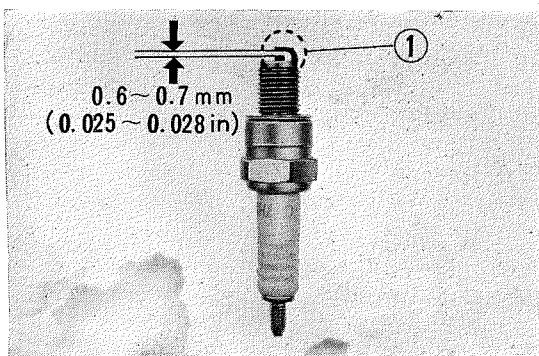

Fig. 9 ① Electrode
3. Check the gap between the electrodes with a thickness gauge and if necessary, adjust the ground electrode by bending. The standard clearance is **0.6-0.7 mm (0.025-0.028 in.)**. (Fig. 9)